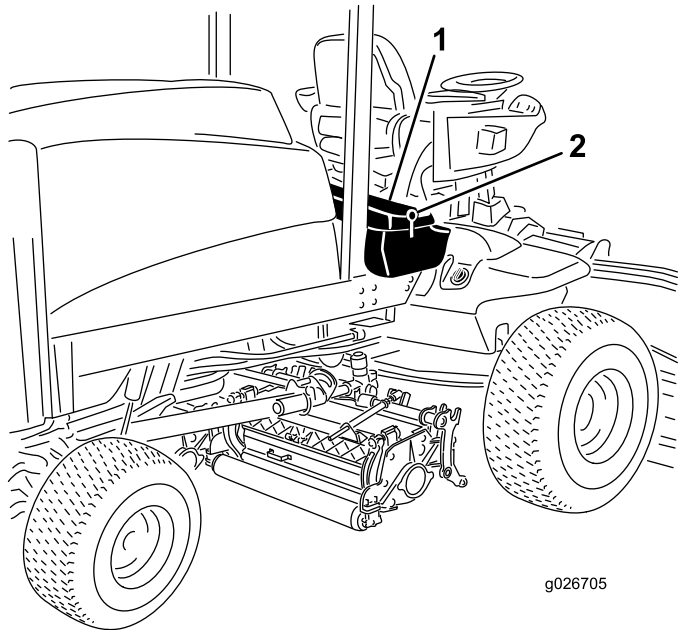

Figure 83
1. Unlatch and raise the operator's console panel (Figure 83).